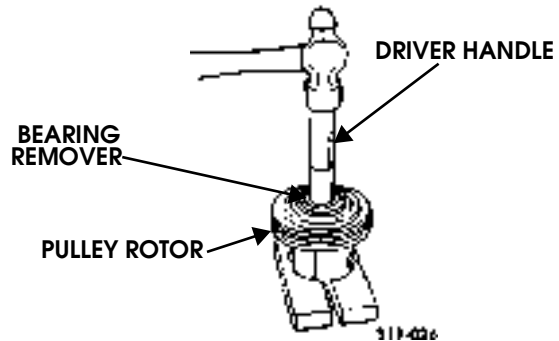

Figure 11-33: Bearing Remover
5. To prevent damage to the pulley during bearing removal, the rotor hub must be properly supported. Remove the forcing screw from puller, and with the puller tangs still engaged in the rotor slots, invert the assembly onto a solid flat surface or blocks (Figure 11-33).
1. Place the pulley rotor on support block to fully support the rotor hub during bearing installation (Figure 11-33).